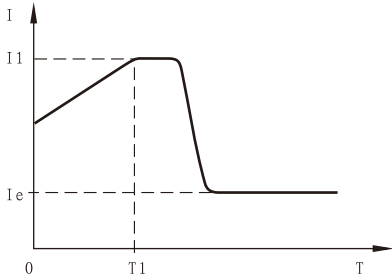

Figure 12-4-1
- a) The motor will be under current starting mode when code F9 is set to 4(current ramp). Figure 12-4-1 shows the output current wave of the current ramp starting mode,  $T_1$  is the time value set by code F1.